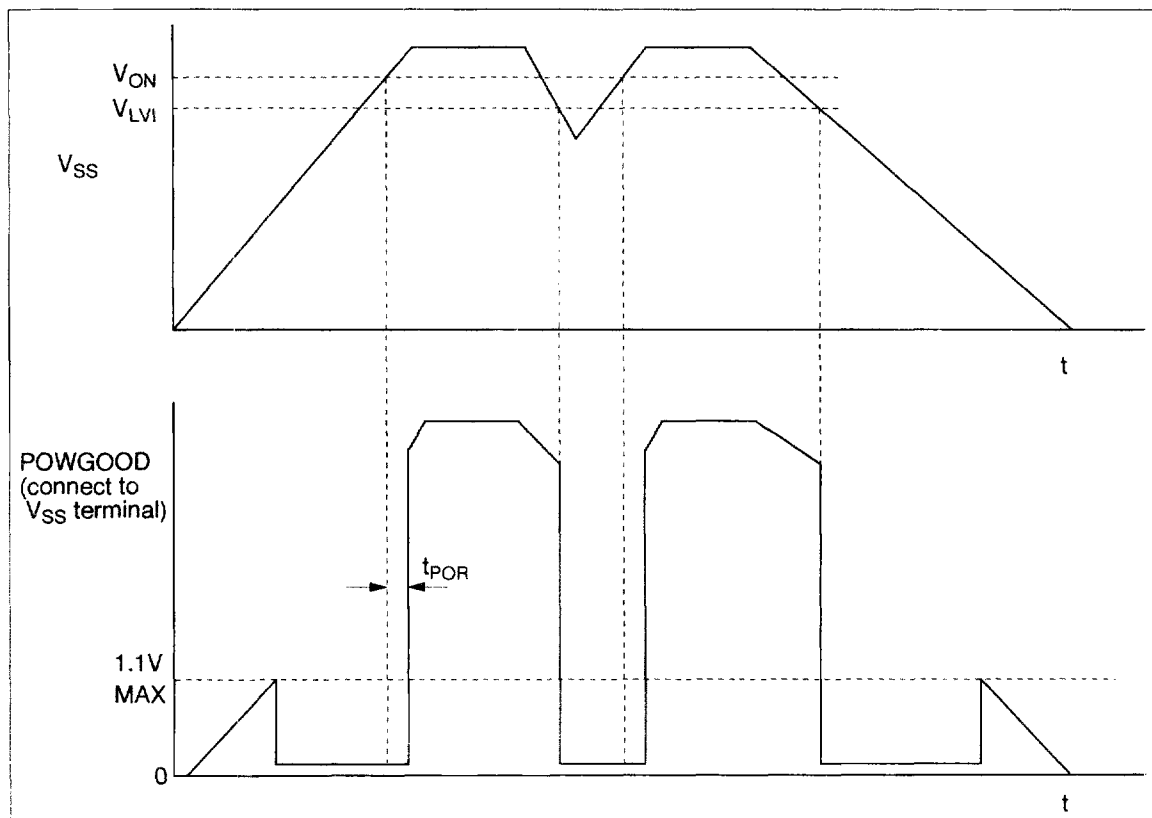

Figure 6 Timing for POWGOOD
2. The LVI operation voltage VLVI and LVI return voltage VON can be designed as follows. (See Figure 6)
(See Figure 6)